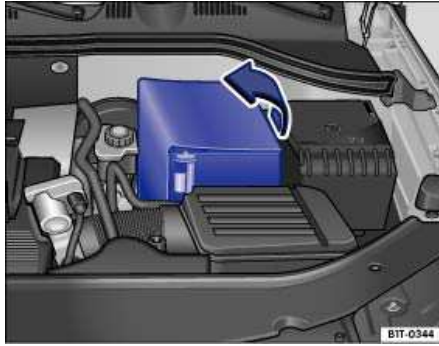

Fig. 188 In the engine compartment: Open the sleeve covering of the vehicle battery.
- Open the sleeve cover to the side ⇒ fig. 188 (Not for vehicles with 3.6 liter engines).